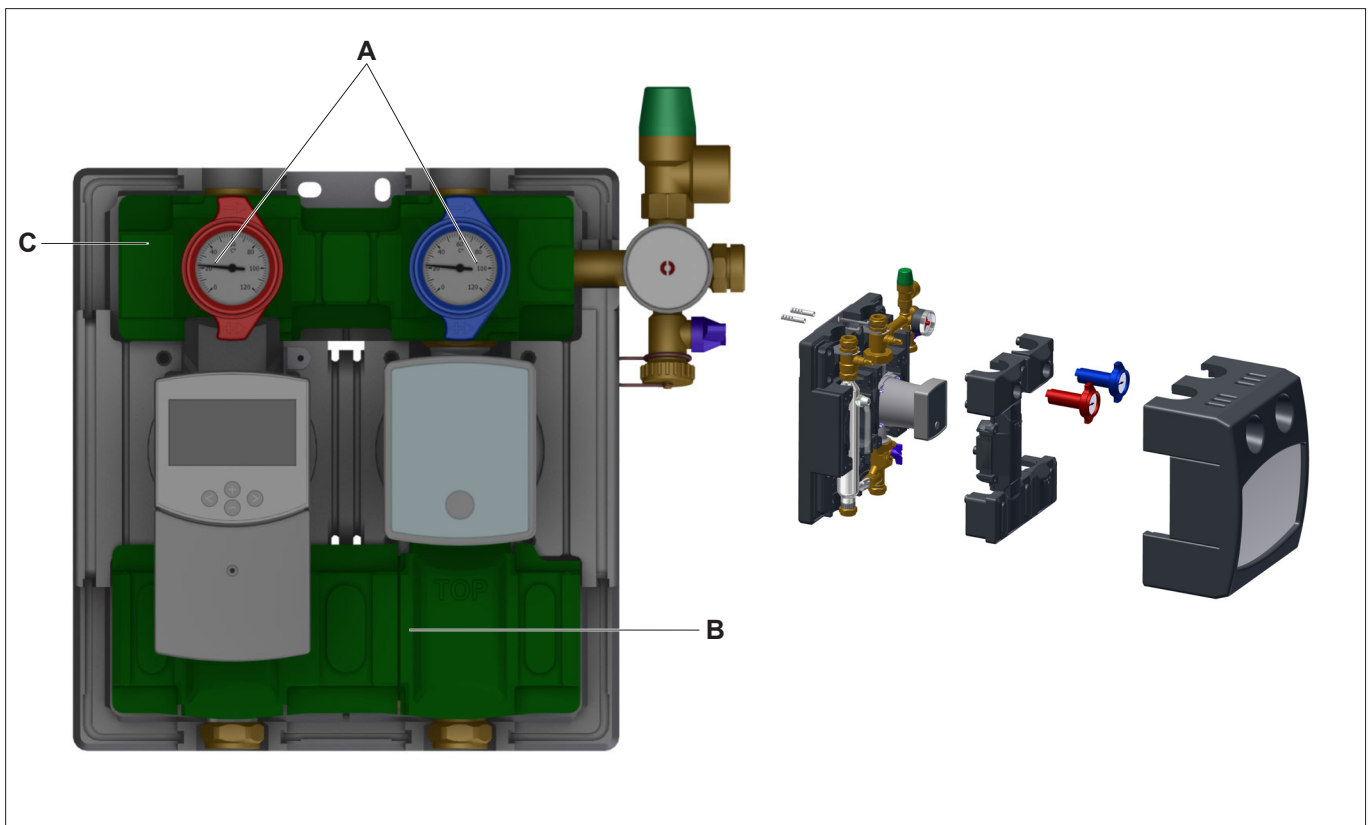

Fig. 10: Dismantle insulations (represented in type 8130 with venting pipe and regulator)
- Set the ball valves (Pos. A; see Fig. 10 on page 16) to position B.